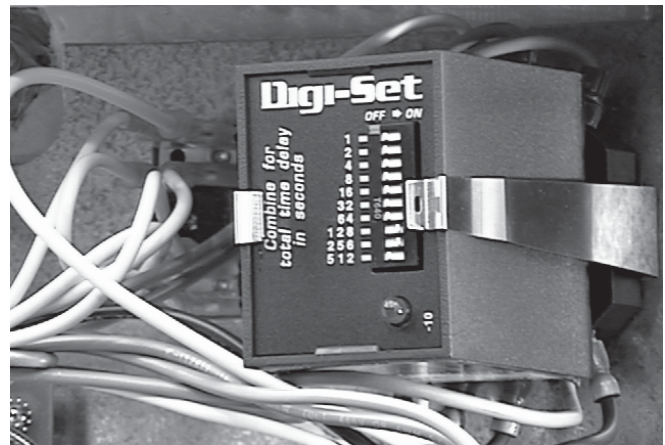

Figure 29. Pump Relay
1. Release the two retainers by pushing to the side. Figure 29.